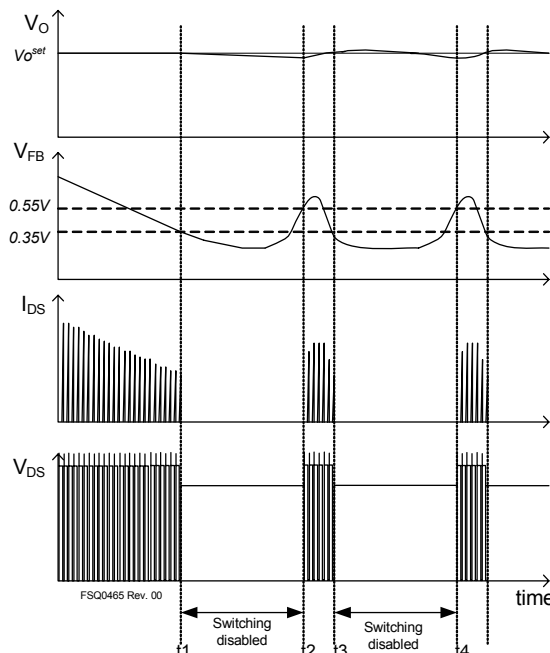

Figure 32. Waveforms of Burst Operation
6. Burst Operation: To minimize power dissipation in standby mode, the FPS enters burst-mode operation. As the load decreases, the feedback voltage decreases. As shown in Figure 32, the device automatically enters burst-mode when the feedback voltage drops below V_{BURL} (350mV). At this point, switching stops and the output voltages start to drop at a rate dependent on standby current load. This causes the feedback voltage to rise. Once it passes V_{BURH} (550mV), switching resumes. The feedback voltage then falls and the process repeats. Burst-mode operation alternately enables and disables switching of the power SenseFET, thereby reducing switching loss in standby mode.